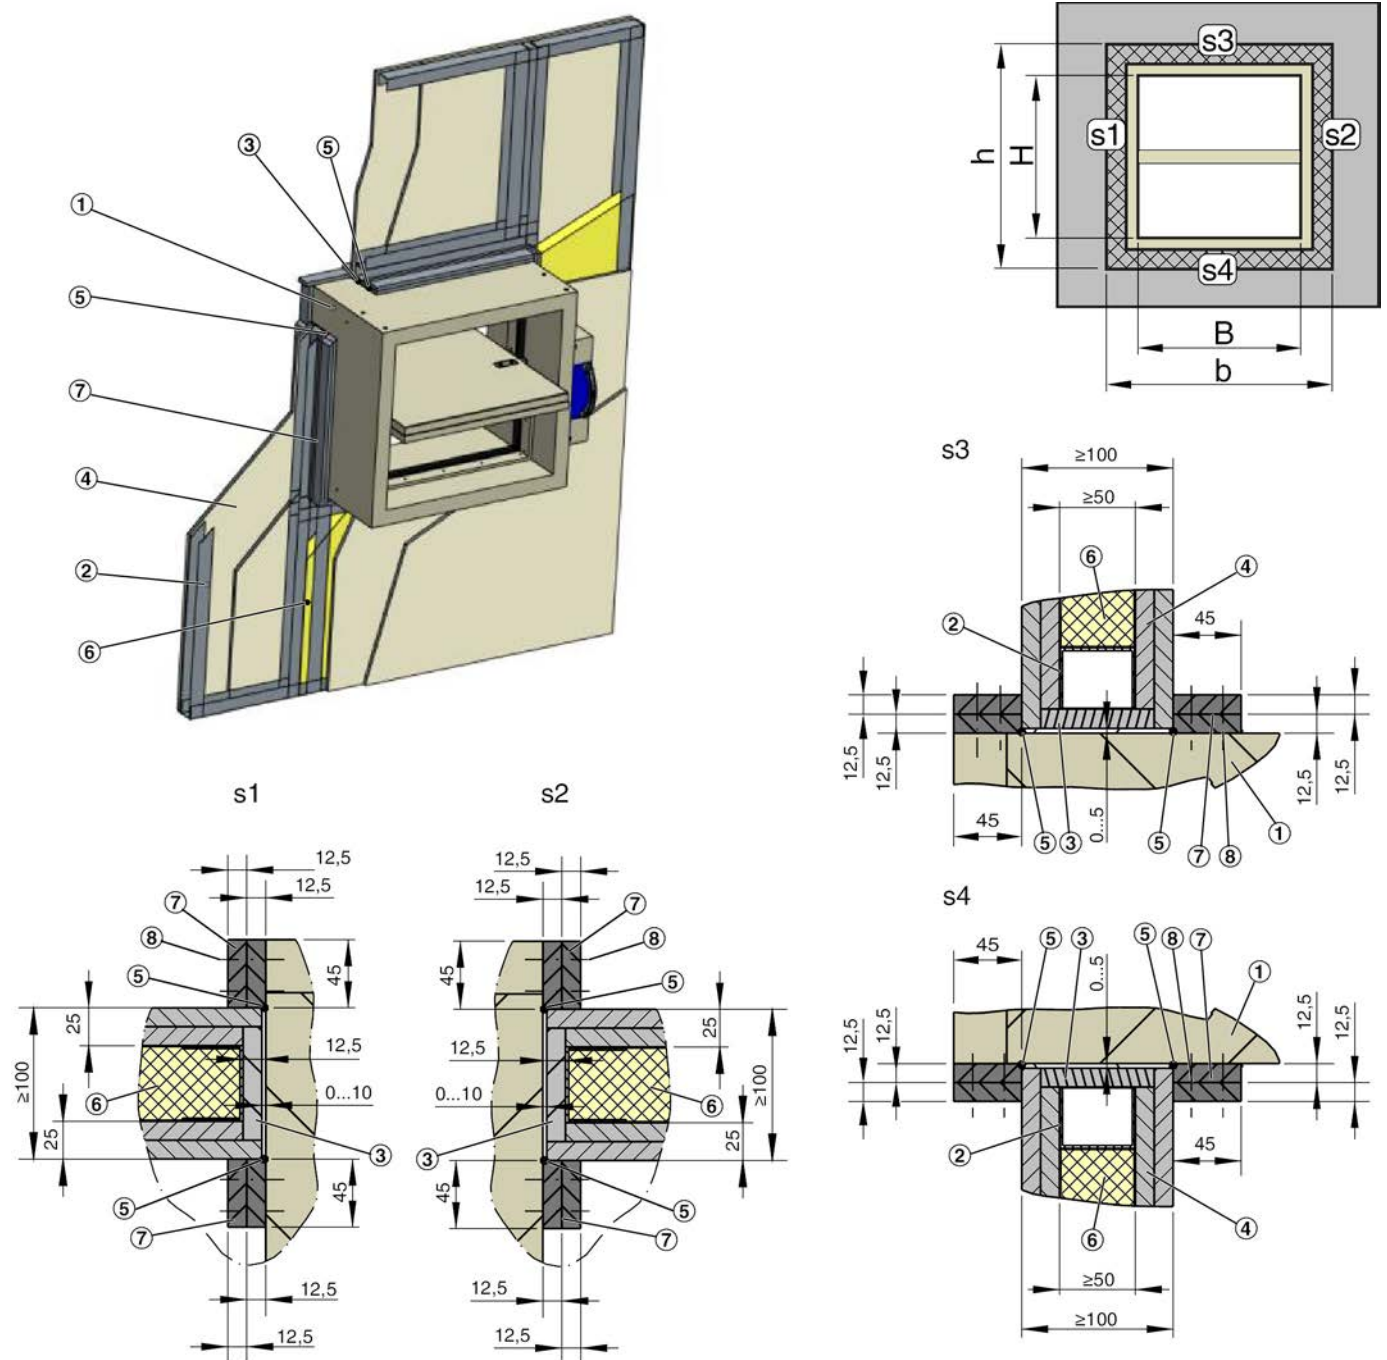

Fig. 16: Dry mortarless installation in lightweight partition wall, installation variant b, classification index: v_{ew}
- ▶ Create an installation opening according to Fig. 16 .
1. ▶ Create an installation opening according to Fig. 16 .